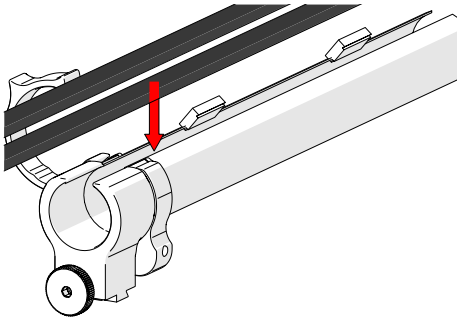

Fig. 77 - Insert cables and hoses
1. Open the cable management and cable latch. Begin at the tube's dovetail mount and place the cabling in the tube (Fig. 77).